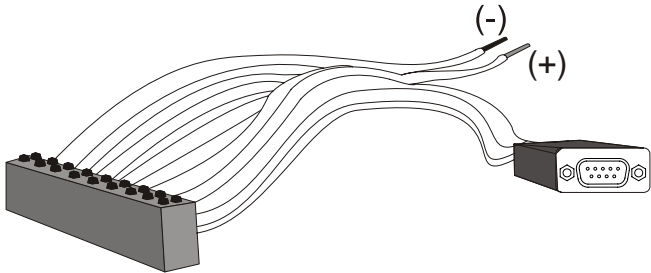

Figure 2: User-Supplied Wiring Harness Example
- A wiring harness, see *Figure 2*, to provide power to the receiver and access to the data and strobe signals, with one or more DB-9 connectors for serial communication with a PC or other data communications equipment